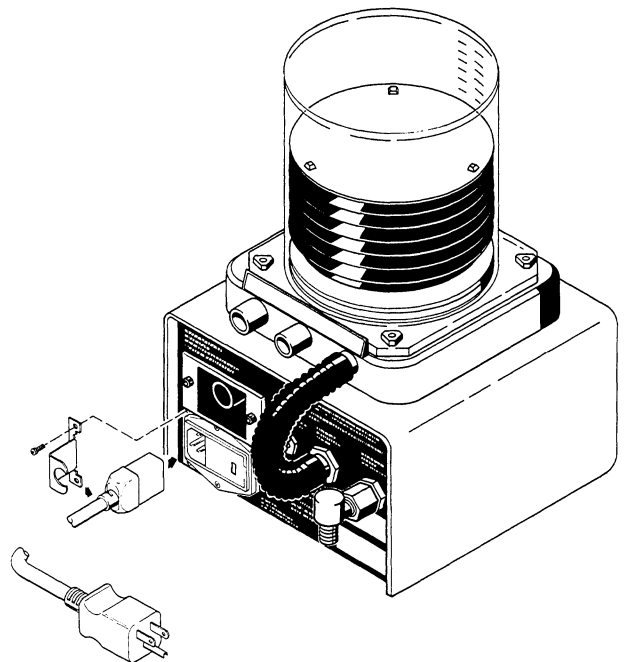

Figure 4-11
2. Remove the power cord anti-disconnect bracket by removing the two socket head cap screws. Refer to figure 4-11.